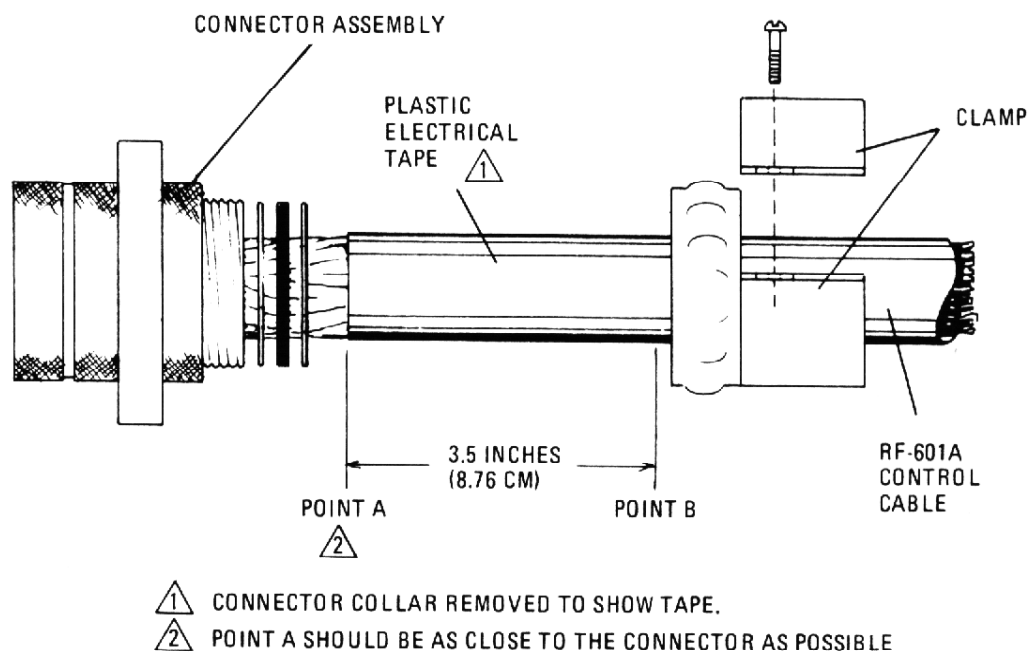

Figure 2-3. Control Cable Waterproofing Diagram
- a. Unplug cable connector that attaches to J1 on the RF-601A and disassemble connector as shown in figure 2-3.